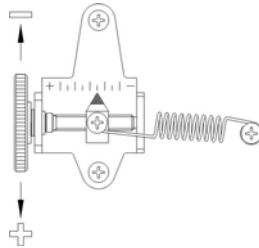

Figure 12
1. Set the input signal to 4 mA or 20 mA and turn the adjustment wheel clockwise or counter-clockwise to set the starting point of the drive. When setting the zero point be sure to allow for the specifications of the valve and the system. Please note figure 12 on increasing or lowering the zero point.
2. The SR 1000 L factory preset is "A (automatic)". If the user needs the regulator setting to be "M (manual)" it can be set by turning the switch counter-clockwise. Figure 12.